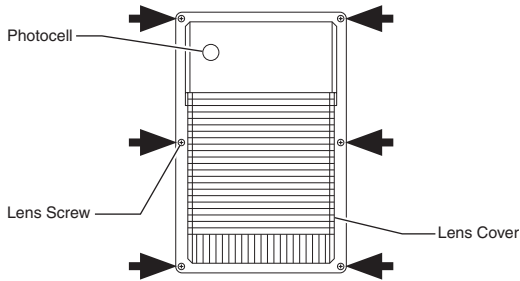

Figure 1
- Using a phillips screwdriver, remove the six screws holding the lens cover on the light fixture (Figure 1). Remove the lens cover.